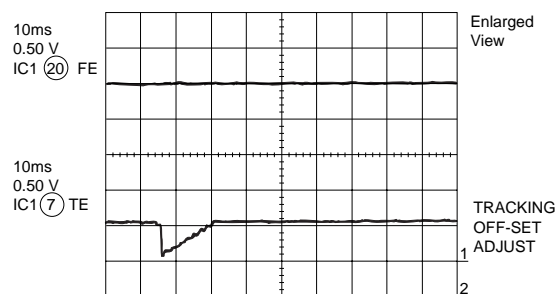

Figure 15-3
2. Tracking offset (Fig. 15-3)